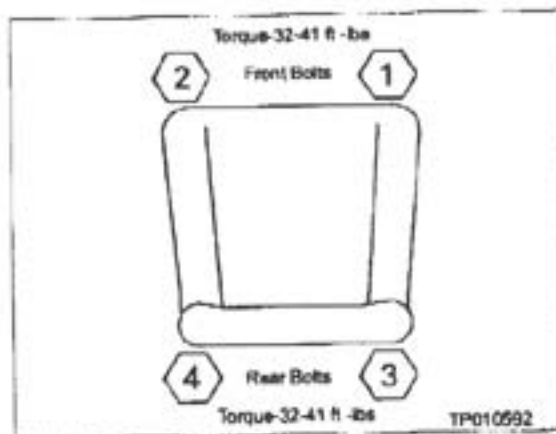

Figure 11 (Top View of Front Driver's Seat)
- B. Tighten the two front bolts (1→2) to 32-41 ft-lbs, in the sequence as shown in Figure 11.
- D. Tighten the two rear bolts (3→4) to 32-41 ft-lbs. in the sequence as shown in Figure 11 above.